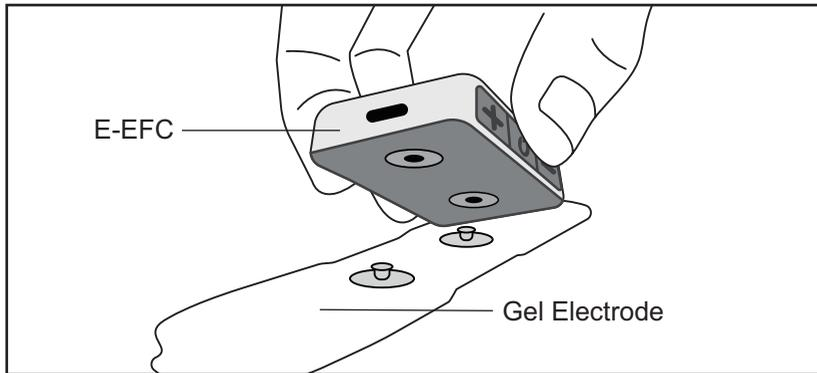

Figure 6-2: TalisMann E-EFC connecting to Gel Electrode.
5. Snap the E-EFC onto the Gel Electrode. See Figure 6-2.